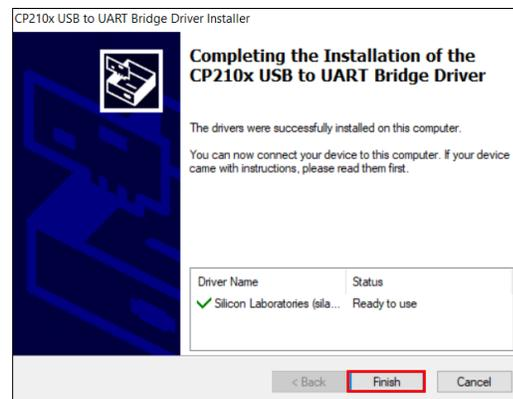

Figure 17: USB Link 2 License Agreement Screen
13. The driver installation will run, when complete, you will see the screen below. Select “Finish” to end the installation (see figure 17).